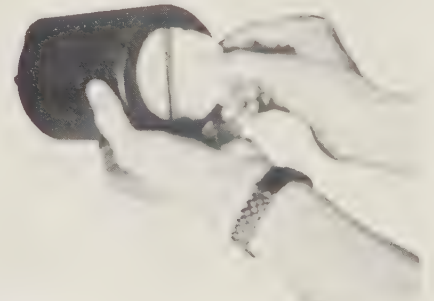

Fig. 3.31. Renewing the filter in the fuel evaporative system canister (1977 models)
- c) Pull the filter out carefully, otherwise it may tear and become difficult to get out (Fig. 3.31).